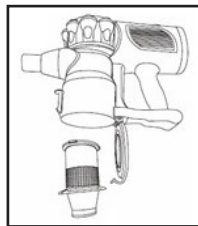
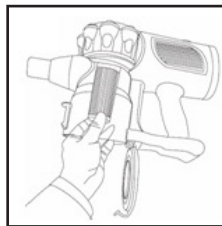
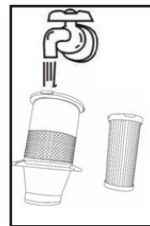

Abb. 2
Abb. 3
Abb. 4
- Preliminarily remove dust and garbage from the dust bin (8) as described above.
- Turn the separator (11) counterclockwise and remove it (fig. 2).
- Clean the separator (11) from dust and garbage.
- Turn the HEPA filter (10) counterclockwise and remove it (fig. 3).
- Clean the HEPA filter (10) from dust and garbage.
- Wash the separator (11) and the HEPA filter (10) under a warm water jet and dry them (fig. 4).
- Dry the separator (11) and the HEPA filter (10) thoroughly.
- Do not dry the HEPA filter (10) with a hairdryer or similar appliances.
- Wipe the inner surface of the dust bin (8) with a slightly damp cloth.
- Insert the HEPA filter (10) into the dust bin (8) and turn it clockwise until bumping.
- Insert the separator (11) into the dust bin (8) and turn it clockwise until bumping.
- Close the lid (12) until the lock (9) clicks.